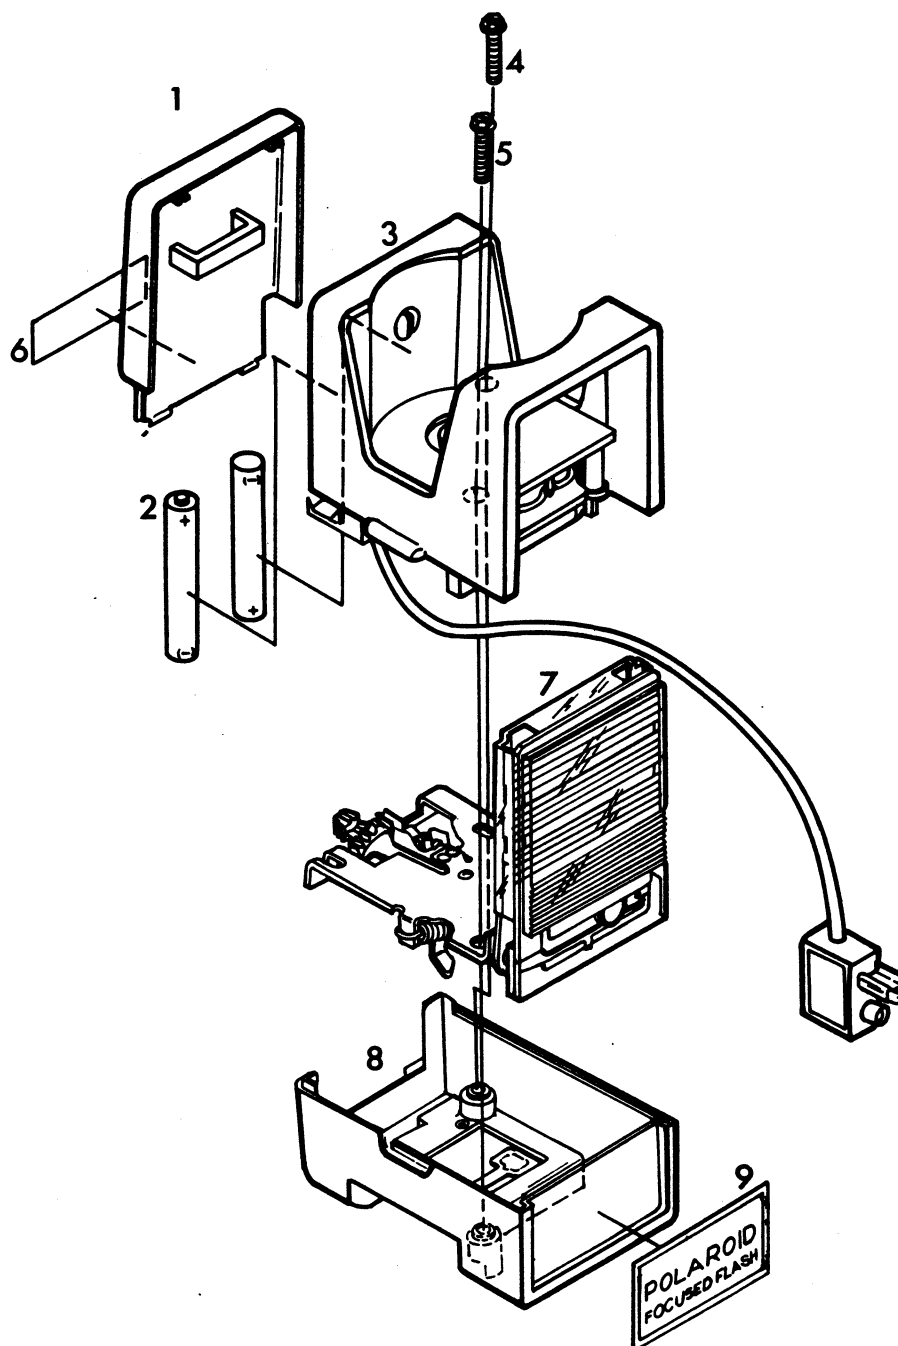

FIGURE 3 MODEL 490 FOCUSED FLASH, EXPLODED VIEW
to their original locations when the unit is reassembled. The screws are numbered 4 and 5 on Figure 3.
3. Lift off the flash upper housing assembly, item 3, Figure 3.
4. Remove the chassis assemblies (item 7) from the lower housing assembly (item 8).